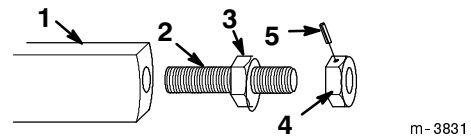

Figure 3
5. On the end of the adjustor with the flush adjustment nut (Fig. 3), make a mark across the face of the nut and adjustor. This will enable you to determine the exact position the nut should be in when you install it later.
6. Remove the roll pin from the adjustment nut, and remove the nut from the threaded adjustor (Fig. 3).
7. Thread the long end of the adjustor into the opening in the end of the trencher boom until the welded nut on the adjustor contacts the end of the boom (Fig. 3).